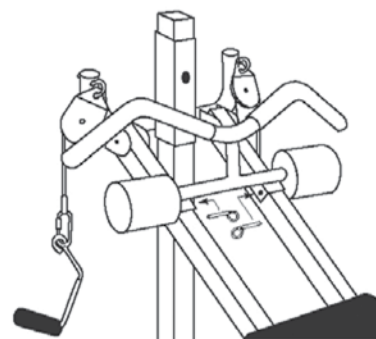

Fig. 3
3. Insert the 2 Medium Hitch Pins through the holes on the Wing Accessory brackets and the hole on the rails, as shown in Figure 3.